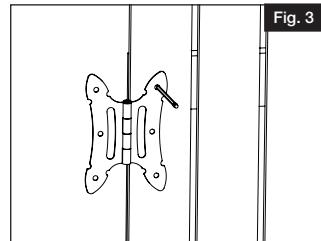

Fig. 3
- Mark screw locations on gate (Fig. 3).